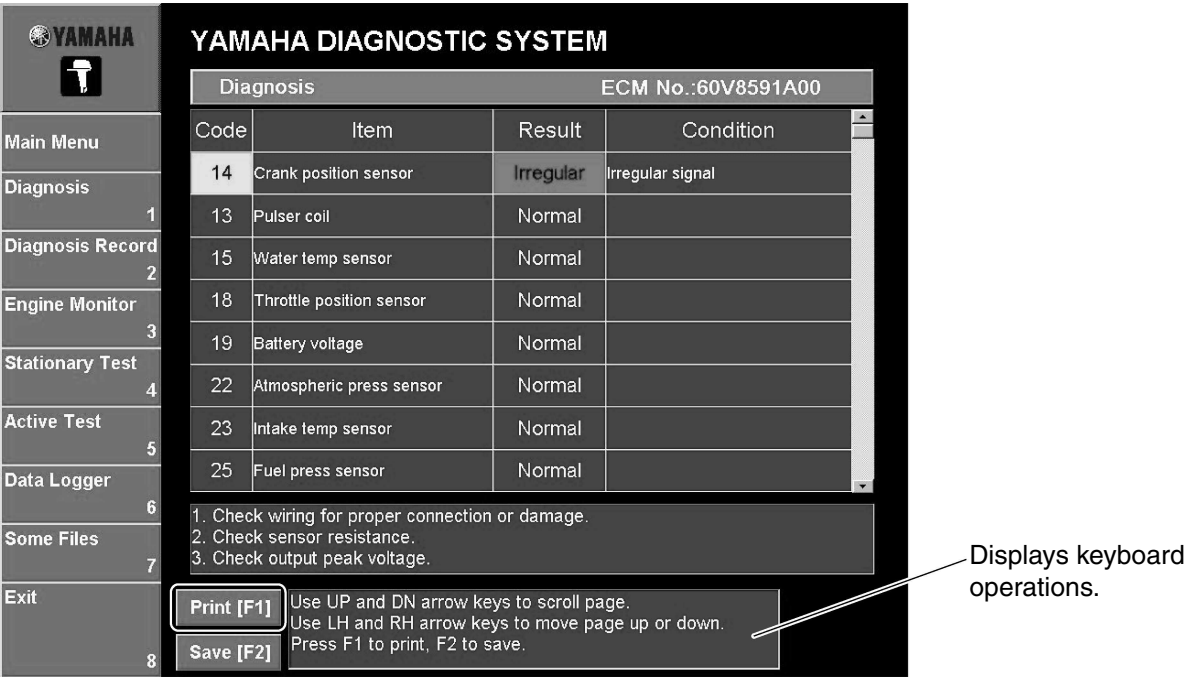

Fig. 13
1. Click the **Print [F1]** button or press the F1 key on your keyboard. The **Print** dialog box is displayed. (Fig. 13)